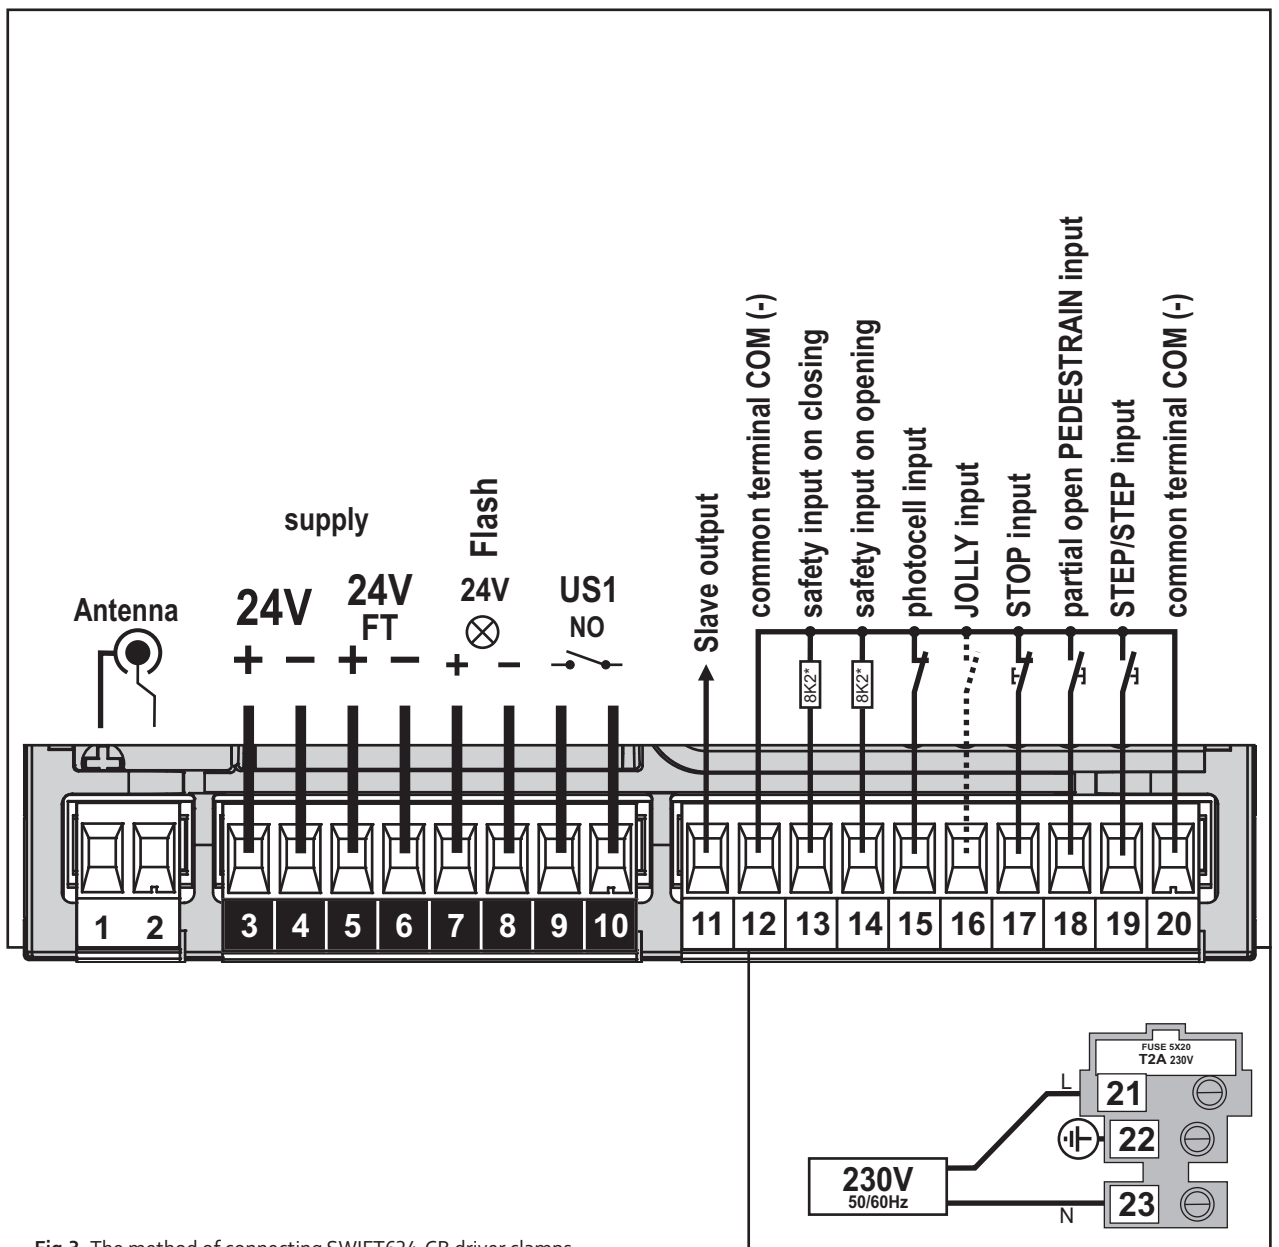

Fig.3. The method of connecting SWIFT624-CB driver clamps.
4.3.5. Clamps for network power supply 230VAC, 50Hz, PE, N (21-23, Fig.3)
4.3.6. Clamps for powering accessories 24V (3-4, fig.3)
4.3.7. Clamps for connecting photocells/stand-by type power supply 24vft (5-6, Fig.3)
4.3.8. Clamps for connecting signal lamp 24VDC Flash (7-8, Fig.3)
4.3.9. Programmable output clamp US1 (9-10, Fig.3)
4.3.12. Clamps for connecting output of PHOTOCCELL FT photocell (15, Fig.3)
4.3.13. Clamp of programmable input JOLLY [JOL] (16, fig.3)
4.3.14. Clamp for manual control STOP (17, Fig.3)
4.3.15. Clamp for control of partly-opening – PEDESTRIAN wicket function (18, Fig.3)
4.3.16. Clamp for manual control p/p (19, Fig.3)
Opening the gate for pedestrians (wicket function) is already programmed in the factory settings for about 1-1,5 metres. If this opening requires modification, act in the following way using PEDESTRIAN input (PED, clamp 18 fig. 3):
- Connect Slave input (clamp 11, fig. 3) of MASTER motor to multifunctional JOL (clamp 16, fig. 3) of SLAVE motor. Connect COM clamps (clamp 12 or 20, fig. 3) of both drivers. If connection is correct, the diode corresponding to multifunctional input of SLAVE driver will start blinking.